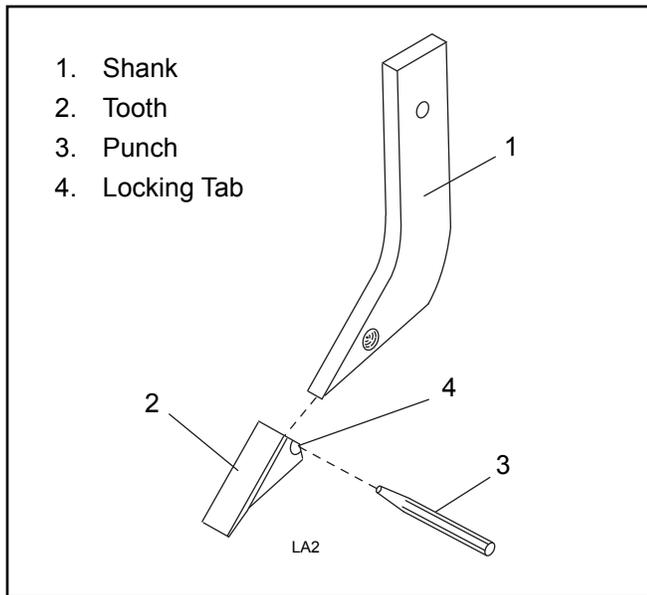

Figure 7. Scarifier Point Replacement
2. Refer to Figure 7. Remove the worn tooth by driving a chisel between the shank (1) and tooth (2).
3. Install replacement tooth and use a punch (3) to bend the locking tab (4) into the retaining hole on both sides of the shank.